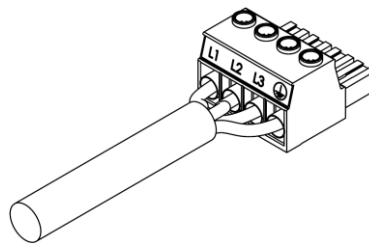

Figure 7-11: : AC Wires fixed to the AC Connector
7. Insert the AC wires into the AC input connector as shown in **Figure 7-11** and tighten the screws using a tightening torque of 15–16 Lbf-inch (1.7–1.8Nm).